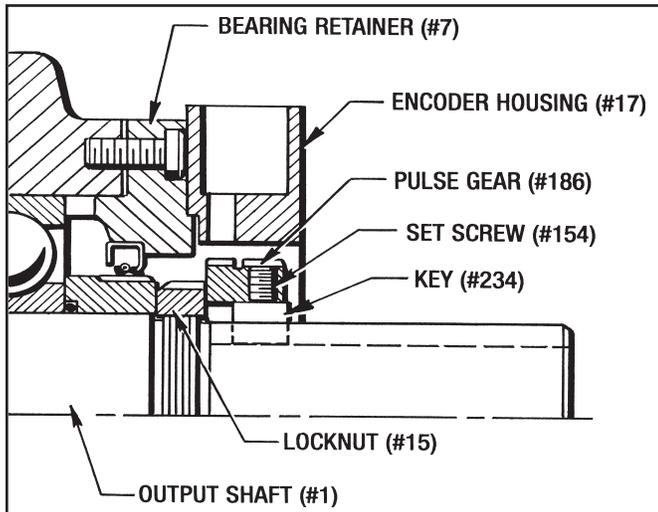

Figure 9.14 - Pulse Gear Alignment (#20 w/o Reducer)
2. Slide the Pulse Gear (#186) onto the output shaft. Butt it up against the Locknut (#15) and align the Set Screw (#154) with the Key (#234) and tighten. (See Figure 9.14)